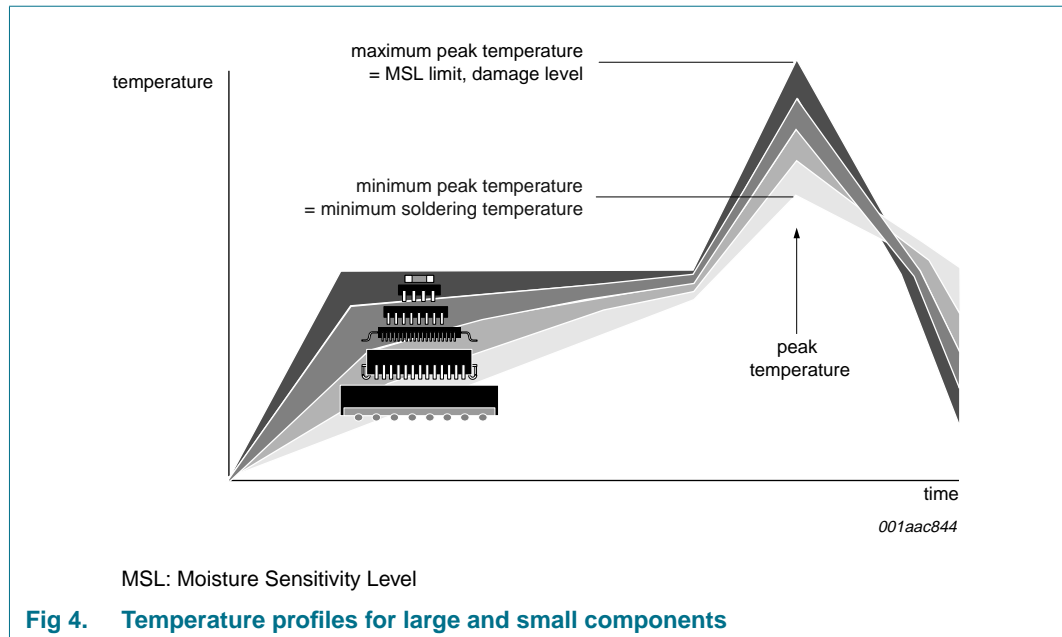

Fig 4. Temperature profiles for large and small components
- Lead-free versus SnPb soldering; note that a lead-free reflow process usually leads to higher minimum peak temperatures (see Figure 4) than a PbSn process, thus reducing the process window
Studies have shown that small packages reach higher temperatures during reflow soldering, see Figure 4.